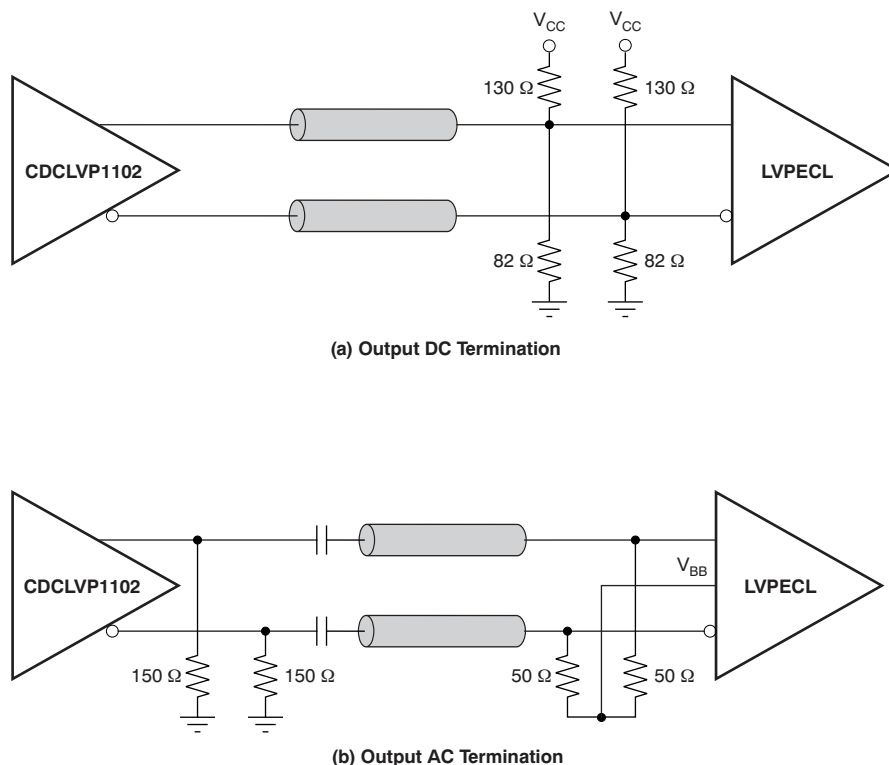

Figure 13. LVPECL Output DC and AC Termination for $V_{CC} = 3.3\text{ V}$
The CDCLVP1102 is an open emitter for LVPECL outputs. Therefore, proper biasing and termination are required to ensure correct operation of the device and to minimize signal integrity. The proper termination for LVPECL outputs is $50\ \Omega$ to $(V_{CC} - 2)$ V, but this DC voltage is not readily available on PCB. Therefore, a Thevenin equivalent circuit is worked out for the LVPECL termination in both direct-coupled (DC) and AC coupled configurations. These configurations are shown in Figure 12 for $V_{CC} = 2.5$ V and Figure 13 for $V_{CC} = 3.3$ V, respectively. It is recommended to place all resistive components close to either the driver end or the receiver end. If the supply voltage for the driver and receiver is different, AC coupling is required.